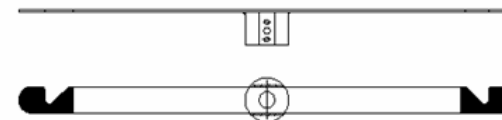

Fig.21
**4.3.2.4.** Place the blade on the outlet shaft of the countershaft by means of the two M10 x 110 screws and the two M10 self-blocking nuts. Put the blade in horizontal position (electrical mode) (fig. 21).